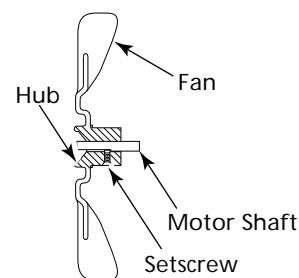

Figure 8 - Fan Cross Section
6. Replace fan on motor shaft. Make sure setscrew is touching back of flat surface on motor shaft (See Figure 8).